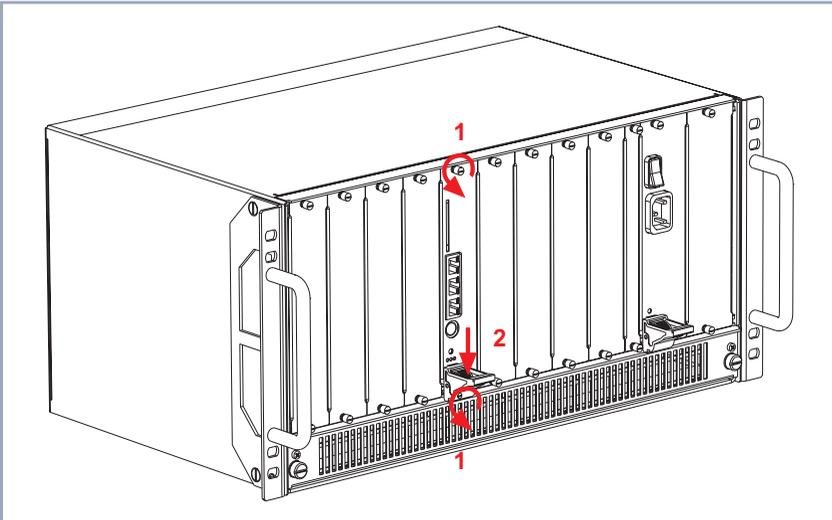

Figure 2-8: Removing an expansion card, step 1
- Loosen the screws of the card's front panel (see figure 2-8, page 50 arrows no. 1).
- Press the switch on the injector/ejector handle down in order to release the connection linked to the cross section of the case front (see figure 2-8, page 50, arrow no. 2).
- Press the switch on the injector/ejector handle in order to release the connection linked to the cross section of the case front (see figure 2-8, page 50, arrow no. 2).